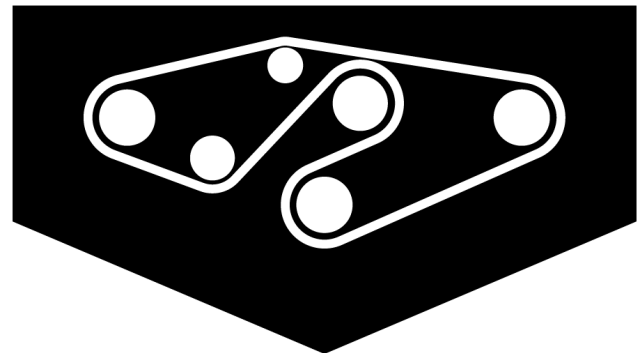

Figure 38
4. Route the new belt around the spindle pulleys and idler pulley assembly as shown in figure 38.